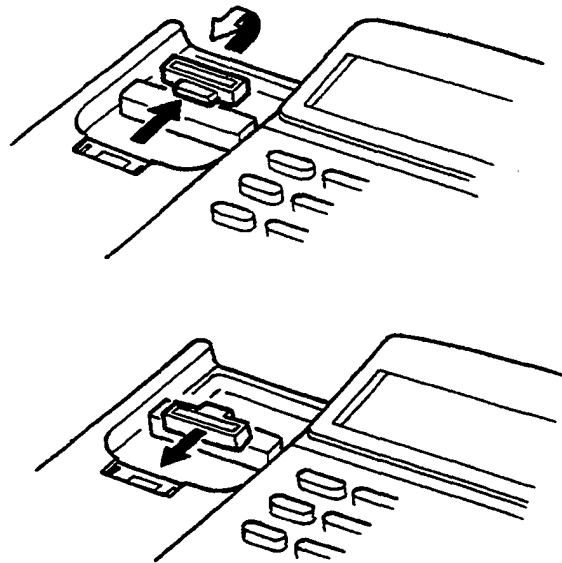

Figure 1-69 Wall Mounting Preparation
2. To remove the hanger, slide it out. Mount it back in the original position with the projected side facing up. Refer to Figure 1-69 - Wall Mounting Preparation.